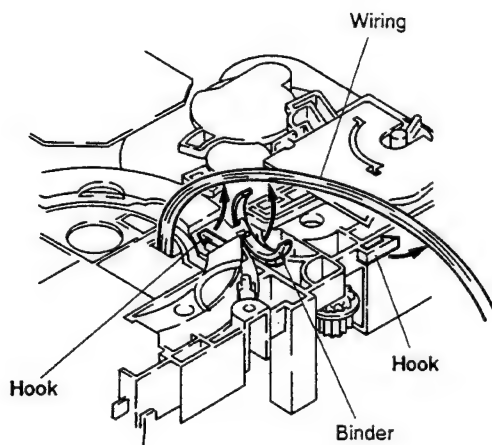

Fig. 1-5
- (1) Remove the tray I. (Refer to 1.1, REMOVAL OF TRAY I)
- (2) Remove the tray II. (Refer to 1.2, REMOVAL OF TRAY II)
- (3) Remove the clamber arm U and B. (Refer to 1.3, REMOVAL OF CLAMPER ARM U AND B)
- (4) Remove four screws holding the servo mechanism assembly.
**Note:** As shown in Fig. 1-5, lead wires from the servo mechanism assembly are fixed by two hooks and a binder on the back of the twin tray mechanism section.